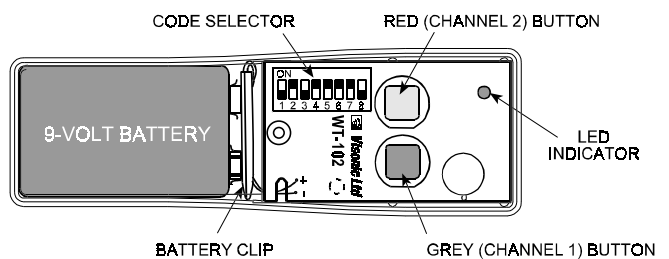

Figure 3. WT-102, Cover Removed
**Model WT-102** (see Fig. 3): The gray button activates the receiver's "channel 1" output relay, and the red button activates "channel 2" output relay.